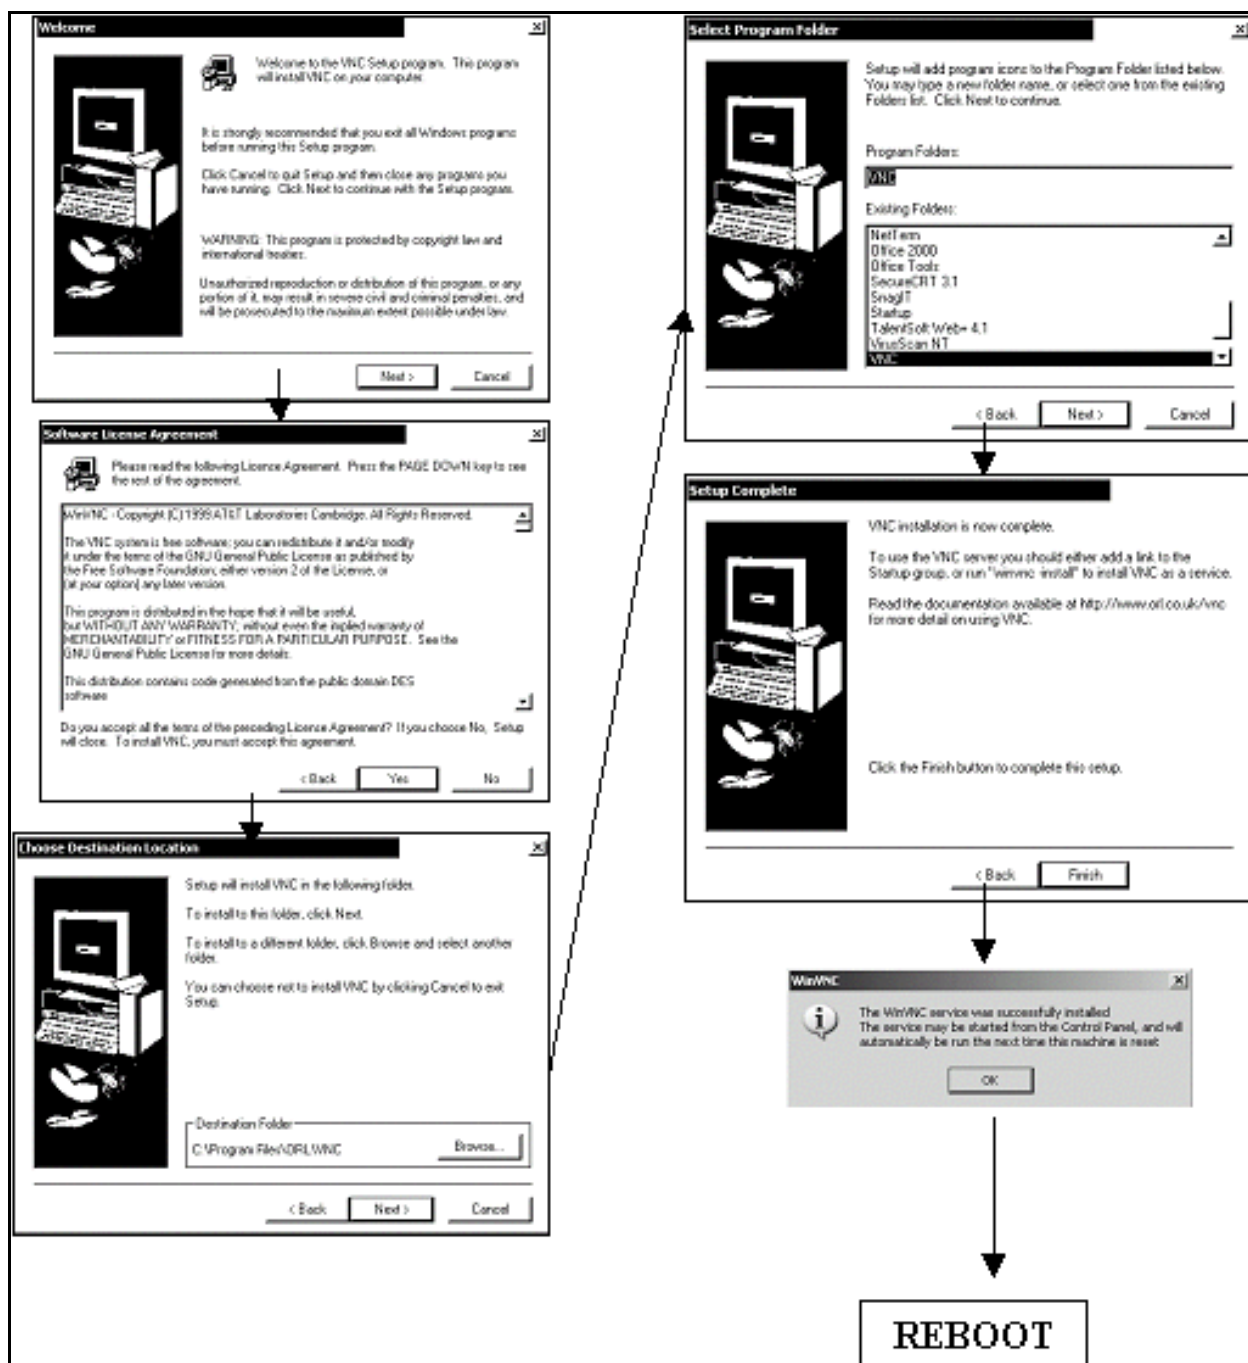

Figure 6-11: Installing the Remote Control Software
1. Run the VNC setup program and click the Next button at the welcome window. The Software License Agreement window will appear (Figure 6-11).